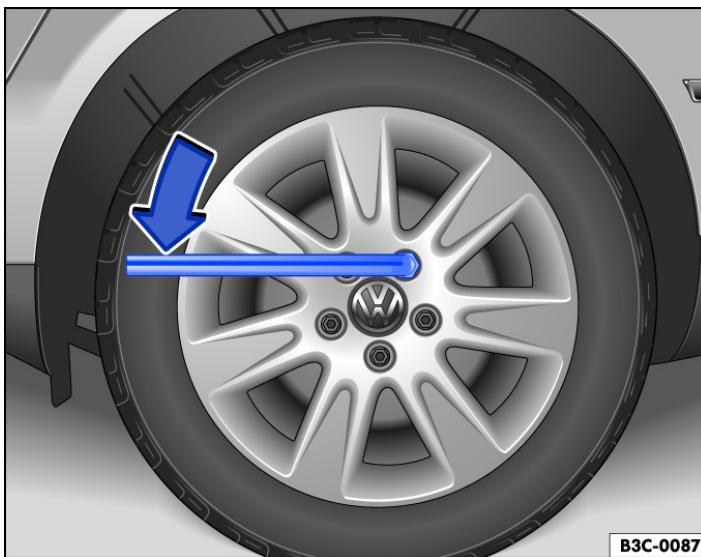

Fig. 1 Changing a wheel: loosening the wheel bolts.
- Fit the box spanner over the wheel bolt as far as it will go → *Fig. 1*.